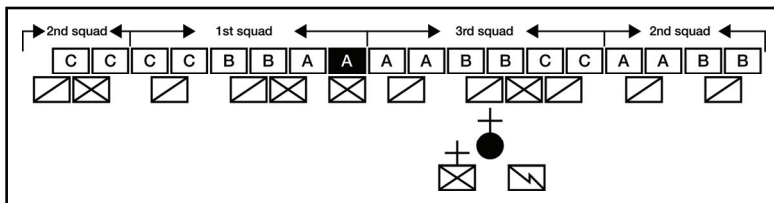

Figure 191-379-5403-1. Platoon line formation
a. Form the platoon into a platoon line formation with one squad in direct (figure 191-379-5403-1).